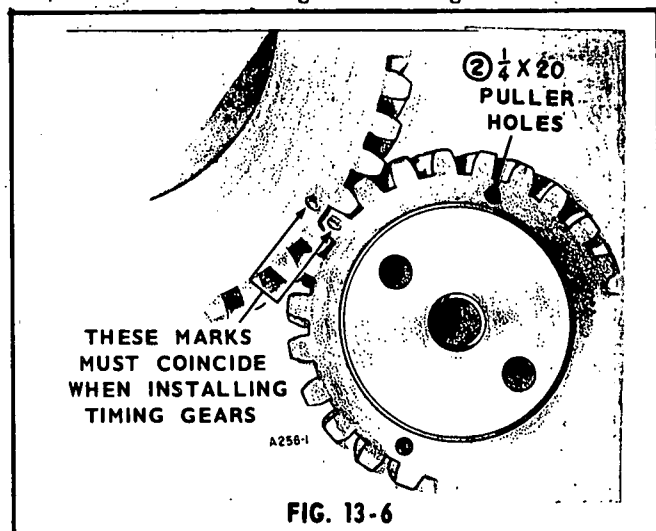

FIG. 13-6
5. Install the camshaft assembly in the engine. Align the timing marks on the camshaft gear and crankshaft gear (Fig. 13-6).